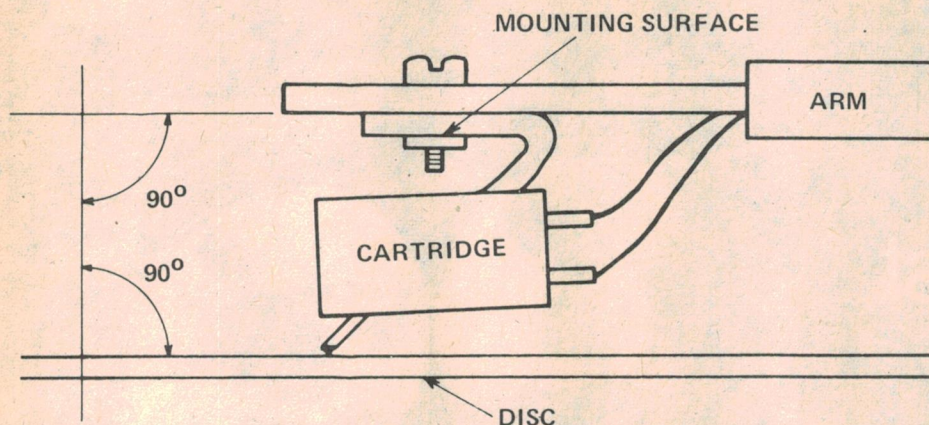

Fig. 2. The cartridge's vertical tracking angle is initially set as shown.
STEP 2: Refer Fig. 2. Set the vertical tracking angle of the cartridge by using the *mounting platform of the cartridge* as the guide, not the arm. This may be changed later but level the cartridge for the present. ►